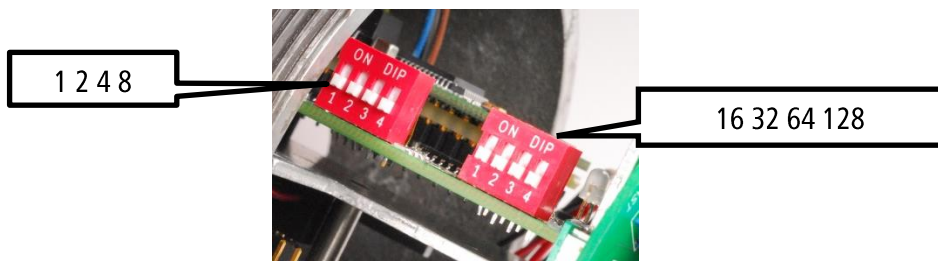

Figure 1: Dip switch
3. Set the slave address with the binary dip switches under the enclosure lid. See figure 1.